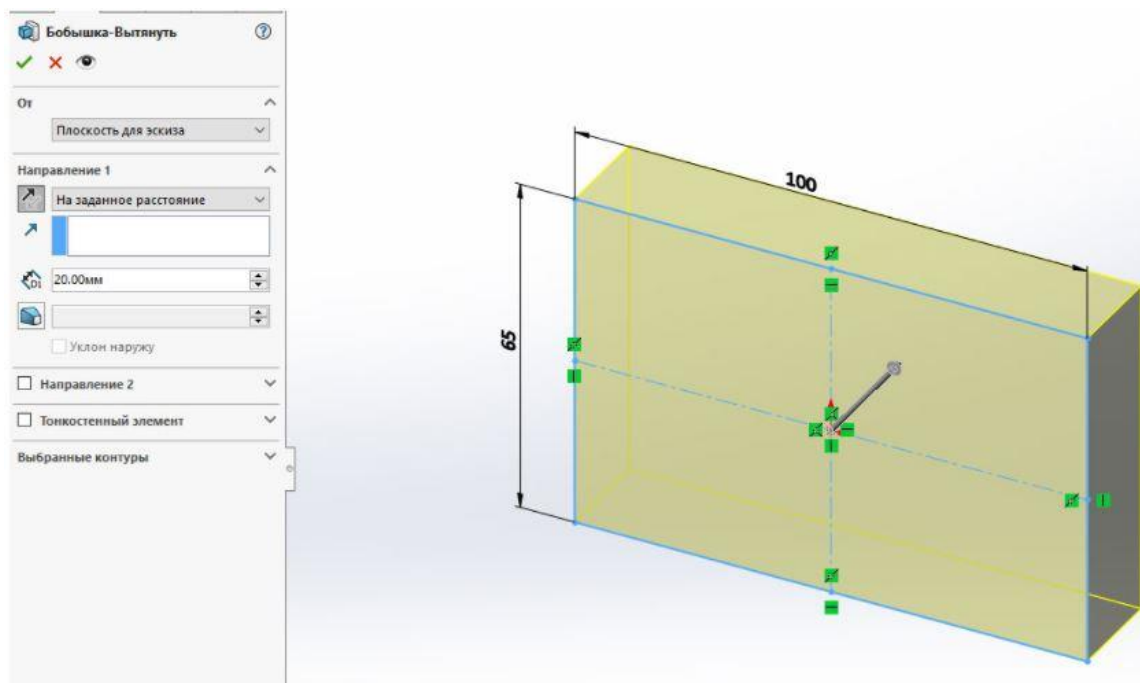

Figure 8.2 – Extruding a rectangle
8.2.3 Next, using the Extruded boss tool, pull out the radiator base by 5 mm (figure 8.2).